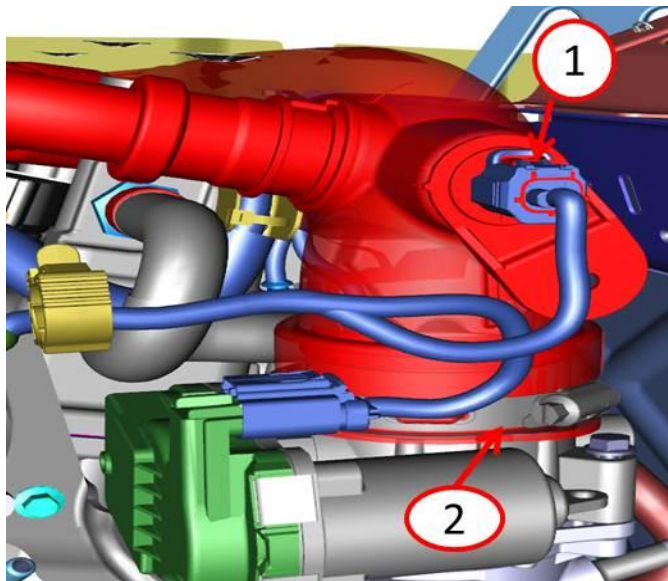

Fig. 2 Intake Air Temp Sensor Connector
2. Disconnect the Intake Air Temperature (IAT) sensor wire harness connector (Fig. 2).
3. Loosen hose clamp on air duct (Fig. 2).
20. Tighten the throttle body clamp to 4 N·m (35 In.Lbs.) (Fig. 2).
21. Connect the (IAT) sensor wire harness connector (Fig. 2).